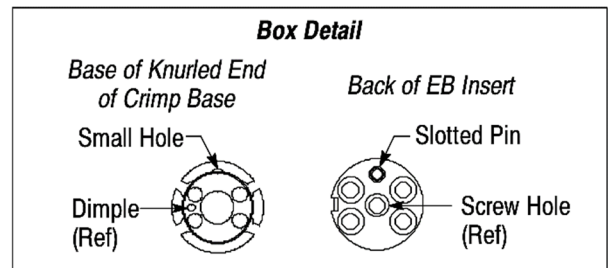

Figure 10
3. Align the end of the ferrule assembly with the appropriate channel cavity of the EB insert, then insert the ferrule assembly into the channel cavity until the O-ring is against the channel cavity. See Figure 10, Detail A. To avoid damage to the fiber, DO NOT push on the cable to install the ferrule assembly.
4. Using the ferrule insertion tool, **push on the spring** until the ferrule assembly bottoms in the channel cavity (the O-ring will be inside of the cavity, and the spring will protrude slightly from the cavity). See Figure 10, Detail A.
5. Slide the crimp base over the cables (and strength members) until it is against the springs (in the EB insert) — make sure that the small hole on the flange at the base of the knurled end of the crimp base aligns with the slotted pin at the back of the EB insert. Refer to Figure 10, Detail B.